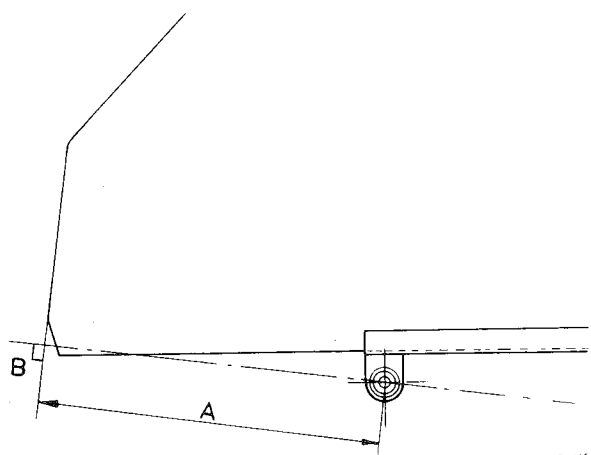

Fig. 8-19. Window dimensions, front door
1. Install the window in the window channel according to Fig. 8-19.